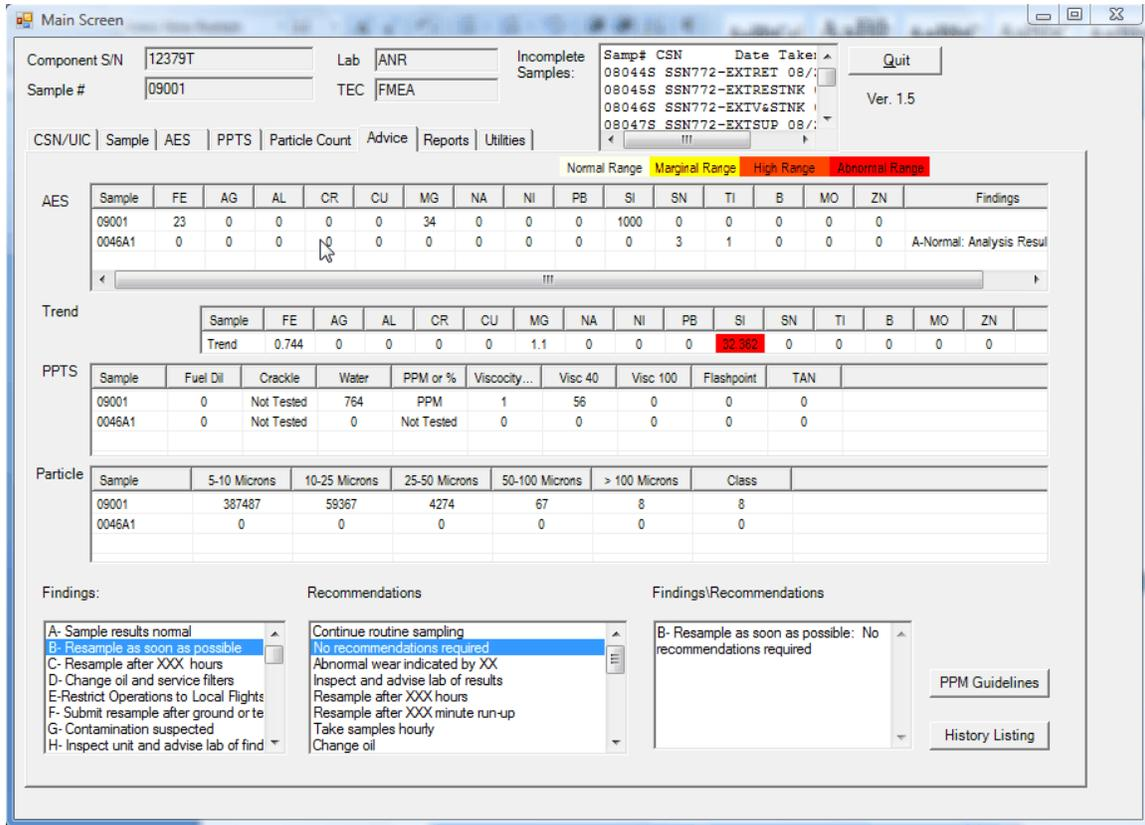

Figure 16. Findings
- (1) Select the correct finding and then recommendations. Where you see XX or XXX is an indication that you are to replace the XX or XXX with a number. That number is your judgment call. Multiple findings and recommendations can be selected (Figure 16).